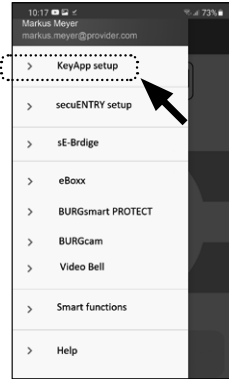

Fig. 46
- 3 Tap on the menu item "KeyApp setup" (Fig. 46).